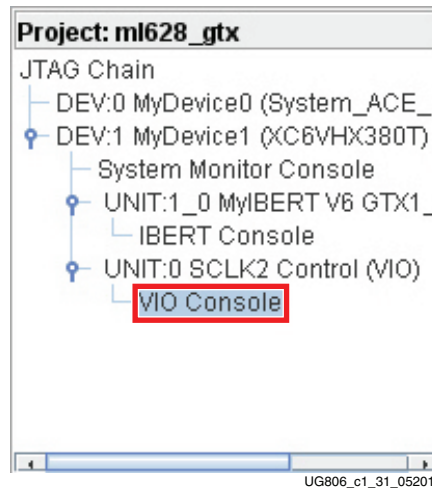

Figure 1-31: Project Panel - VIO Console (GTX)
1. In the Project Panel, double-click **VIO Console** (Figure 1-31).